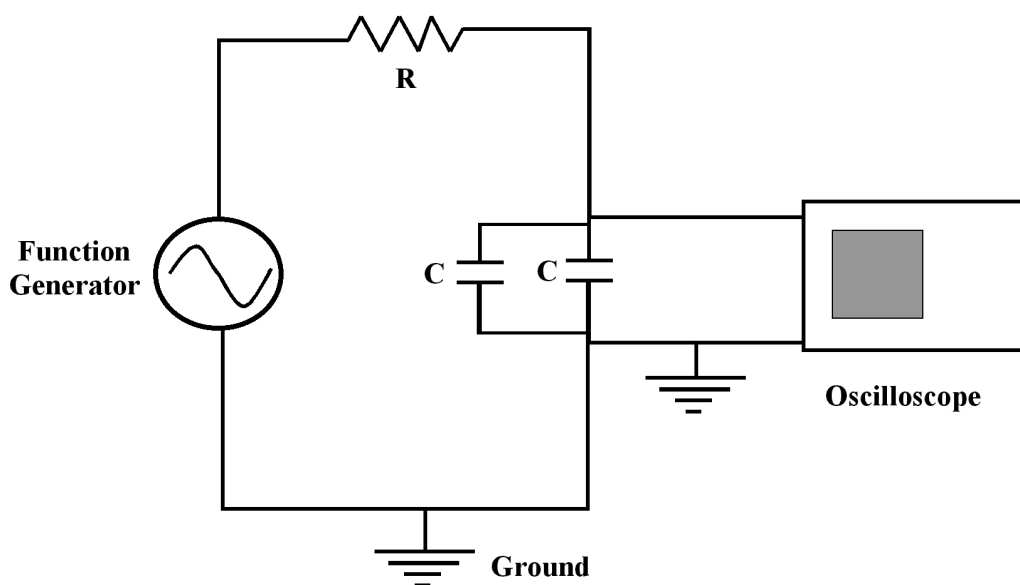

Figure 9: Circuit Diagram for RC Circuit with Two Capacitors in Parallel
1. Construct a circuit with one $10 \text{ k}\Omega$ resistor and two $0.1 \mu\text{F}$ capacitors in parallel. Refer to Figure 9. Notice that the Oscilloscope measures the voltage drop across *both* capacitors. Record the measured values of the capacitors on your data table.